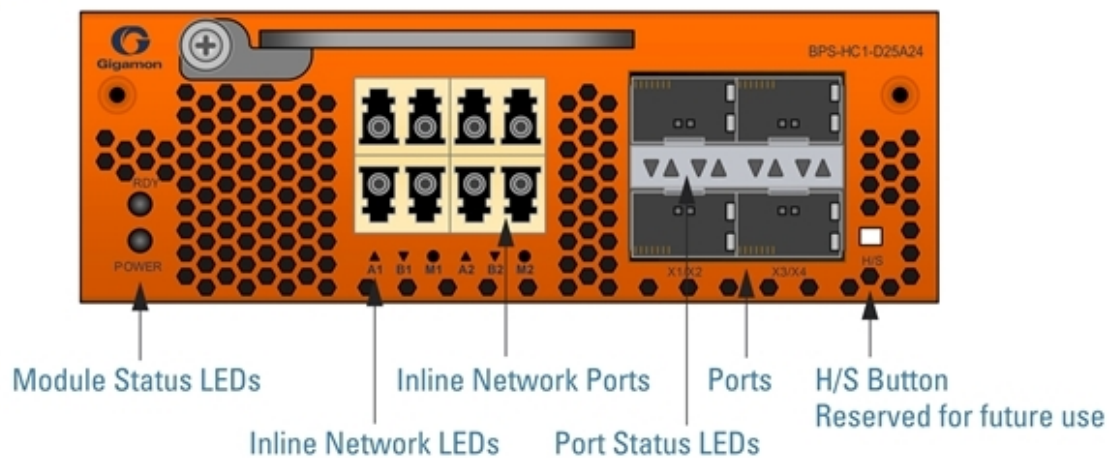

Figure 5 Bypass Combo Module BPS-HC1-D25A24
- Bypass Combo Module with two SX/SR (50/125µm multimode) inline network port pairs and four regular SFP+ port cages (BPS-HCI-D25A24) (Figure 5 Bypass Combo Module BPS-HCI-D25A24)